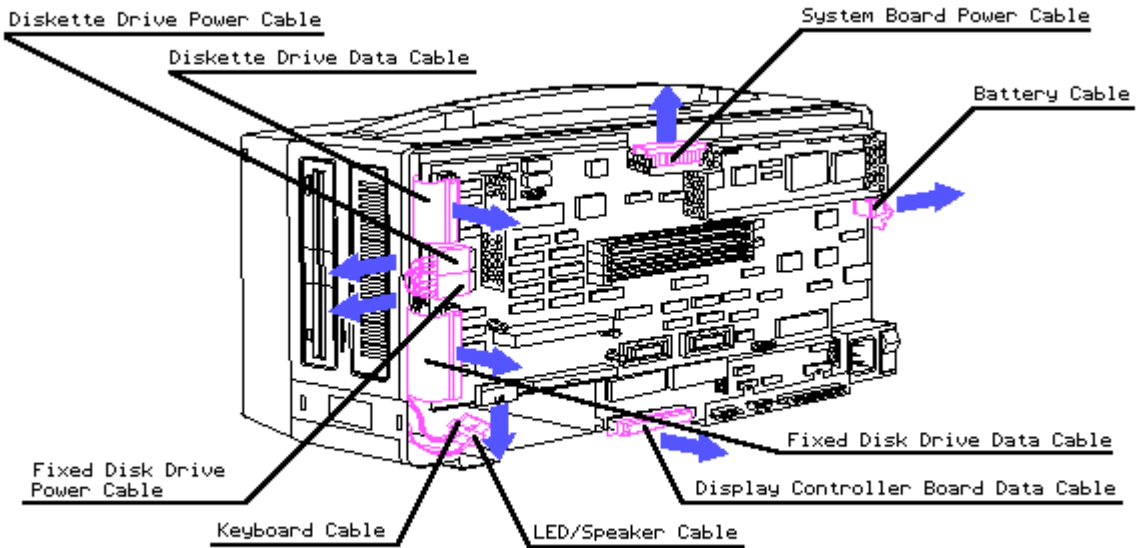

Figure 8-32. Disconnecting System Board Cables
10. Disconnect the following cables (shown in Figure 8-32) from the system board: